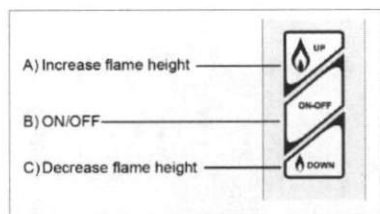

Figure 38 – Optional Touch Pad
- Press button "B" (see Figure 38) until a short beep confirms the start sequence has begun; release button.